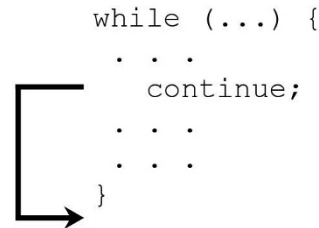

Figure 6.9: continue statement illustration.
**continue statement**—causes control go to the beginning of a loop statement (see Figure 6.9).